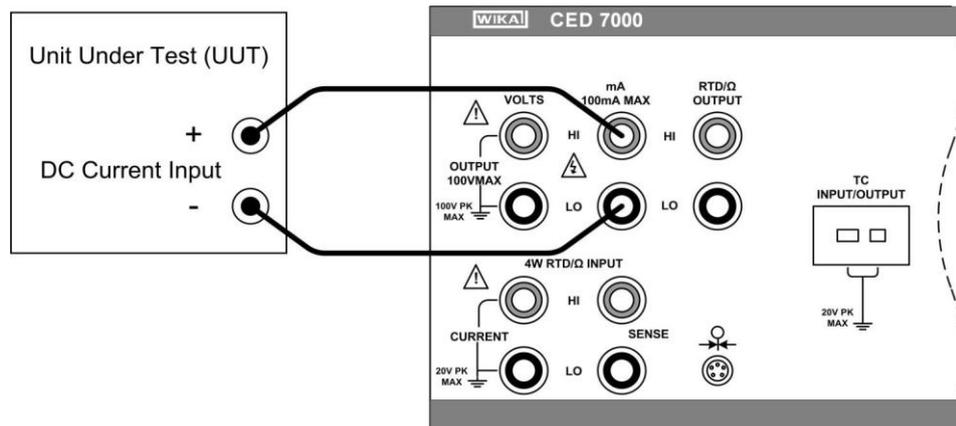

Figure 11 - DC Current Output Connection
- c) Connect the unit under test to the current output terminals of the CED 7000 as shown in figure 11.